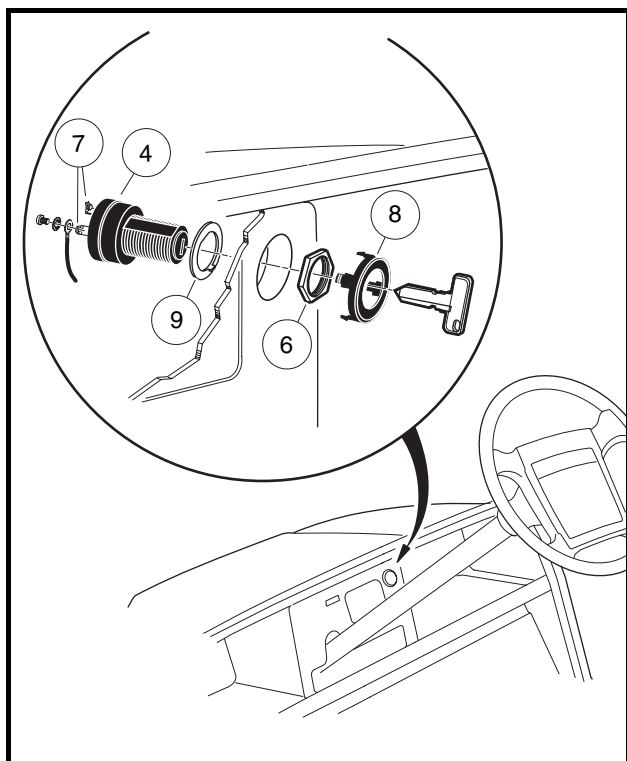

Figure 13-2 Key Switch
5. From the back of the dash panel, push down on the retaining tabs surrounding the key switch (4) and remove the key switch cap (8). Hold the key switch and remove the switch retaining nut (6) from the outside of the dash panel **(Figure 13-2, Page 13-2).**
1. Position the key switch and flat washer (9) in the center dash, then install and tighten the switch retaining nut (6) to 40 in-lb (4.5 N·m). Install key switch cap (8) in center dash **(Figure 13-2, Page 13-2).**
3. Install center dash by reversing removal procedure. Make sure key switch terminals (7) do not touch frame and that the center dash panel is properly seated and snapped into place (**Figure 13-2, Page 13-2**).